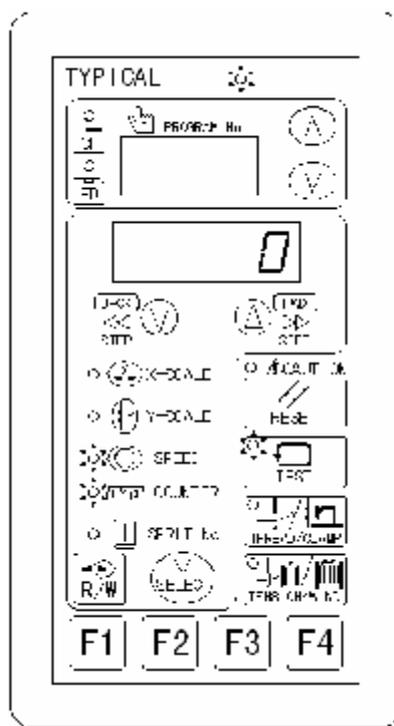

Fig. 5-16
1. In the sewing speed set-up interface, press  and  keys simultaneously, to enter production counter set-up mode (as shown in Fig.5-16).